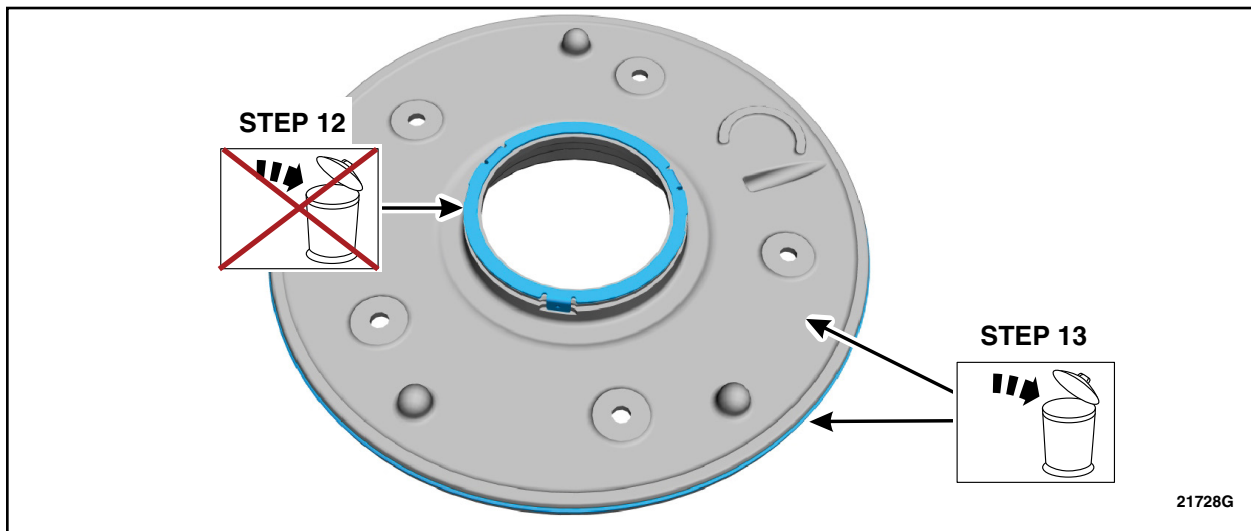

FIGURE 8
10. Discard the old front support cover and seal. See Figure 8.